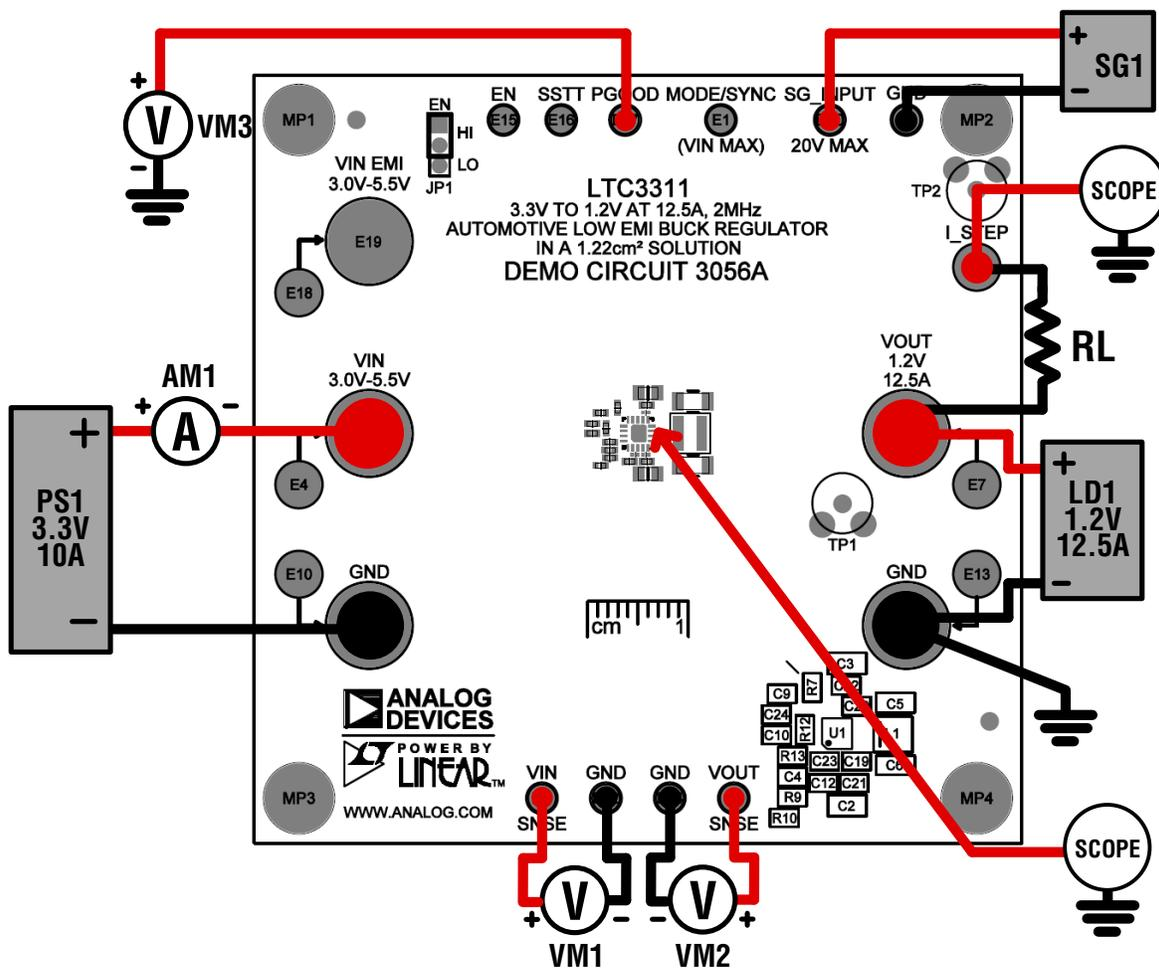
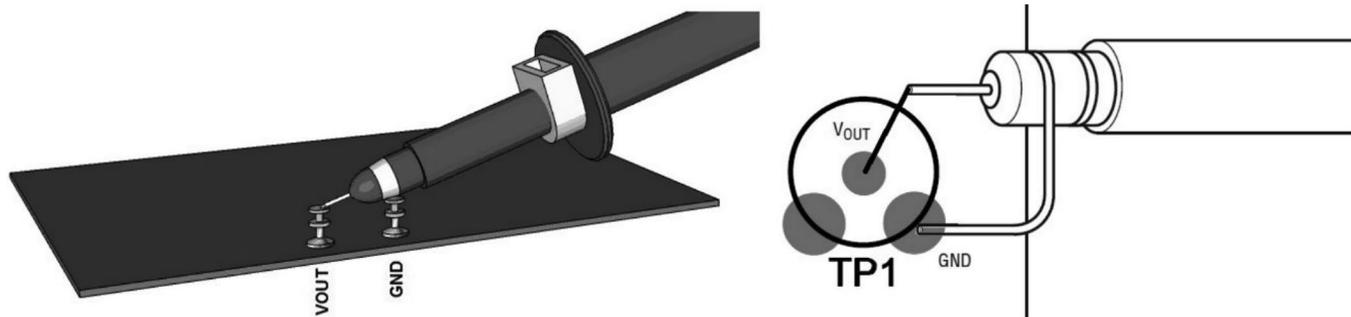

Figure 2. Test Setup for DC3056A Demo Board
Figure 3. Technique for Measuring Output Ripple and Step Response
Refer to Figure 2 for the proper measurement equipment setup and follow the procedure below.
NOTE: For accurate  $V_{IN}$ ,  $V_{OUT}$  and efficiency measurements, measure  $V_{IN}$  at the  $V_{IN}$  SNSE and GND turrets, and measure  $V_{OUT}$  at the  $V_{OUT}$  SNSE and GND turrets, as illustrated as VM1 and VM2 in Figure 2. When measuring the input or output ripple, care must be taken to avoid a long ground lead on the oscilloscope probe. Measure the output voltage ripple by touching the probe tip directly across the output turrets or to TP1 as shown in Figure 3.
3. Set power supply PS1 current limit to 10A. Set the electronic load LD1 to CC mode and 0A current. Slowly increase PS1 to 1V. If PS1 output current reads less than 20mA, increase PS1 to 3.3V. Verify that VM1 reads 3.3V and VM2 reads 1.2V. Check  $V_{M1}$ , VM2, VM3, PS1 output current and LD1 input current. Connect an oscilloscope voltage probe as shown in Figure 3. Set channel to AC-coupled, voltage scale to 20mV and time base to 10 $\mu$ s. Check  $V_{OUT}$  ripple voltage. Verify that PGOOD voltage is above 3V.
- To test the transient response with a base load, add the desired resistor to produce a minimum load between  $V_{OUT}$  and  $I_{STEP}$  turrets ( $R_L$  shown on Figure 2). Note that the total load resistance will be  $R_L$  plus  $R_{16}$  ( $50\text{m}\Omega$ ). Adjust a signal generator with a 10ms period, 10% duty cycle and an amplitude from 1V to 2V to start.